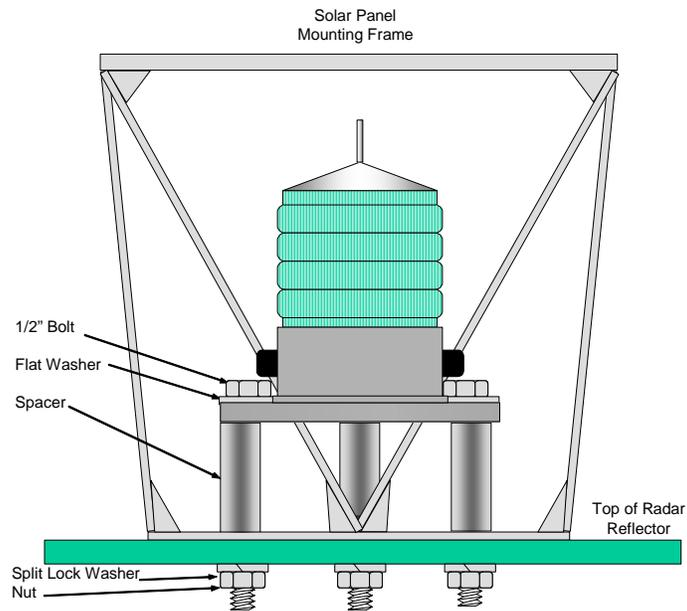

Figure 3-23
- b. On buoys the lantern should be elevated at least 4" so that the lantern ring does not obstruct the light, as shown in Figure 3-23. Spacers are available from the manufacturer or can be fabricated locally.